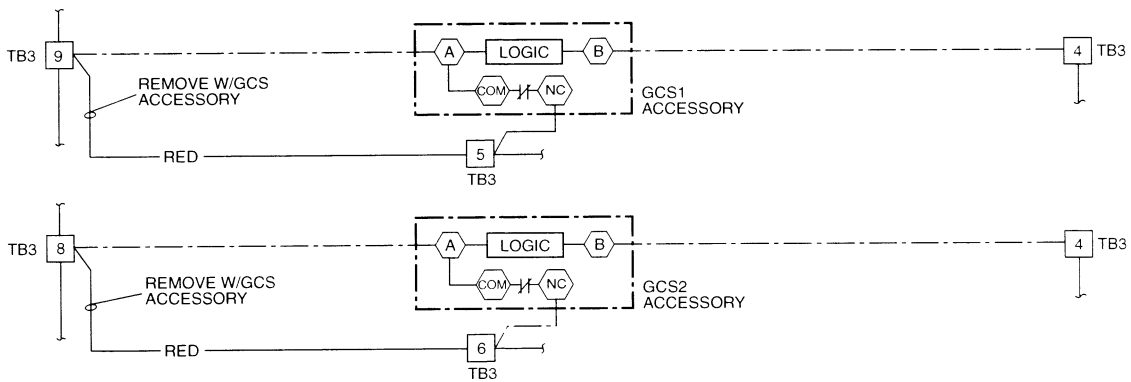

Fig. 6 — 30HK,HL Ground Current Fault Sensor Field Control Wiring, Temperature Controller
2. Remove the RED wire between TB3-5 and TB3-9 for circuit 1. Remove the RED wire between TB3-6 and TB3-8 for circuit 2. See Fig. 6.